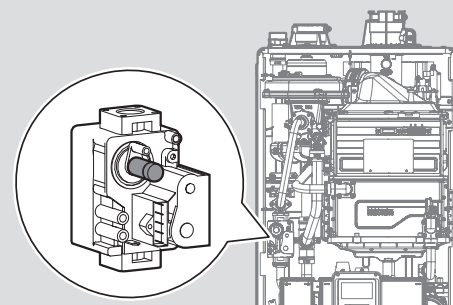

Figure 8. Set Screw Location
c. Activate multiple zones and set the boiler to operate at 1-stage MIN mode. Measure the CO₂ value at low fire. If the CO₂ value is not within 0.5% of the value listed in Table 2, the gas valve set screw will need to be adjusted. If adjustment is necessary, locate the set screw as shown in Figure 8. Using a 5/32 in or 4 mm Allen wrench, turn the set screw no more than 1/4 turn clockwise to raise or counterclockwise to lower the CO₂ value.